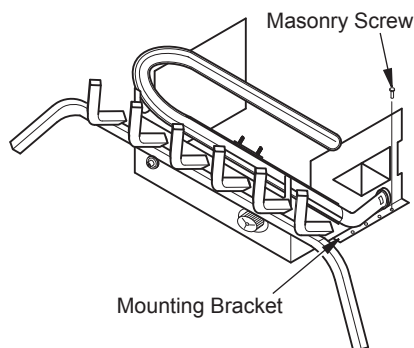

Figure 11 - Attaching Heater Base to Fireplace Floor
2. Mark screw locations through holes in mounting brackets (see Figure 11). If installing in a brick-bottom fireplace, mark screw locations in mortar joint of bricks.
5. Apply pipe joint sealant lightly to fitting threads. Connect approved flexible gas hose to gas regulator of heater (see Figure 11). *Note: Never apply pipe sealant to flare fitting threads. Hold gas regulator with a wrench when connecting flexible gas hose.*
6. Attach base assembly to fireplace floor using two masonry screws provided in hardware package (see Figure 11).